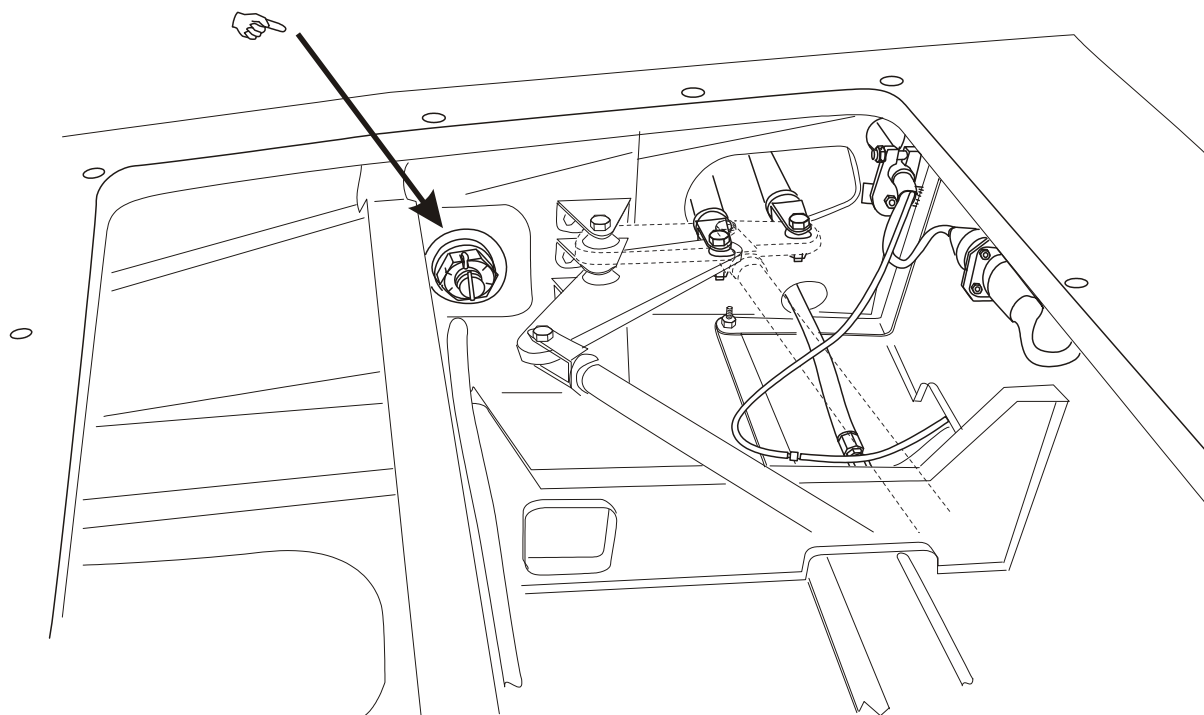

Fig.1
- 1.8.2. Remove the baggage compartment panel to get access to the RH and LH rear wing shear bolts (Fig. 1) I.A.W. MM chapter 25-10.